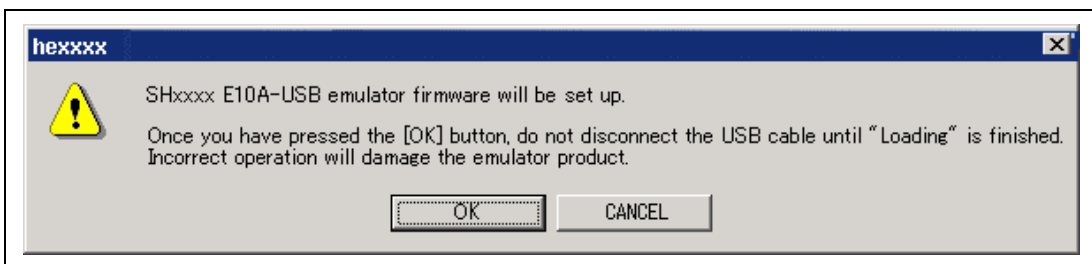
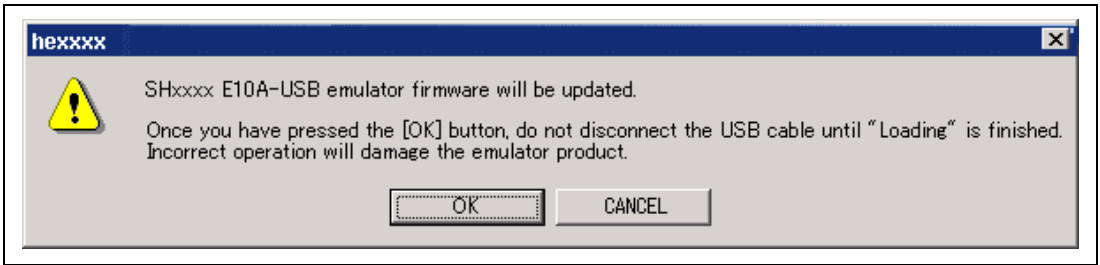

Figure 3.19 Dialog Box to Confirm Setting up of the Emulator Firmware
Figure 3.20 Dialog Box to Confirm Updating of the SHxxxx Emulator Firmware
8. The dialog box shown in figure 3.19 is displayed if no product groups have been installed in the emulator at the time of purchase or if the SHxxxx license has been installed in the emulator but the emulator firmware has been set up for a different device group. The dialog box shown in figure 3.20 is displayed if an old version of the emulator firmware has been set up in the emulator. Clicking the [OK] button sets up the emulator firmware.